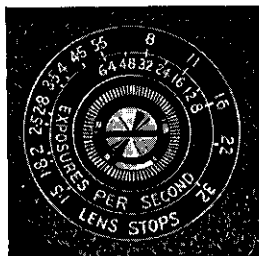

FIGURE 16
your camera gives the diaphragm settings to use under various lighting conditions and for various types of subjects, and is correct for pictures taken at normal (16) speed. Each of the other six speeds at which Filmo 70-DA may be operated requires an exposure modification to compensate for the increase or decrease in shutter speed. For this reason a relative exposure indicator is built into the Filmo 70-DA Camera. This indicator is located low down on the right side, and is shown in Figure 16.
As an illustration of how the relative exposure indicator is used, let us assume that the exposure calculator specifies F 11 as the correct normal speed diaphragm setting for a particular scene. We turn the inner dial until the figure 16 (normal speed) index mark coincides with the F 11 index mark on the outer dial. The correct lens stop setting for any speed may now be read directly on the outer dial, opposite the index marks of the various speeds on the inner dial.